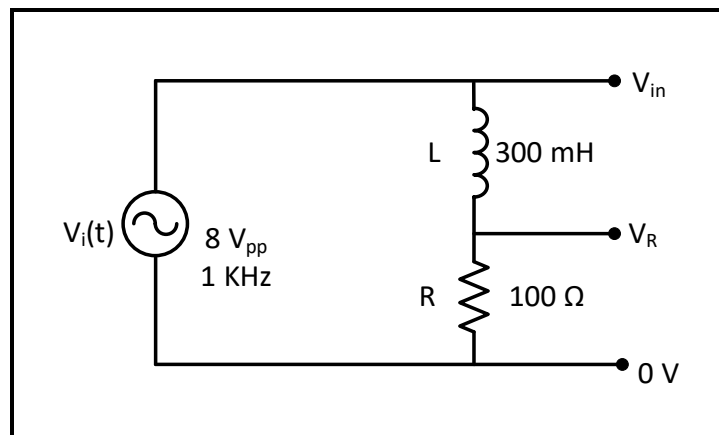

Figure 7.12
2. Repeat the same procedure in step 1 above for the circuit shown in Figure 7.12.
2. Connect the circuit in Figure 7.12, set V_{in} to sinusoidal voltage at 8 V_{PP} and $f = 1$ KHz.